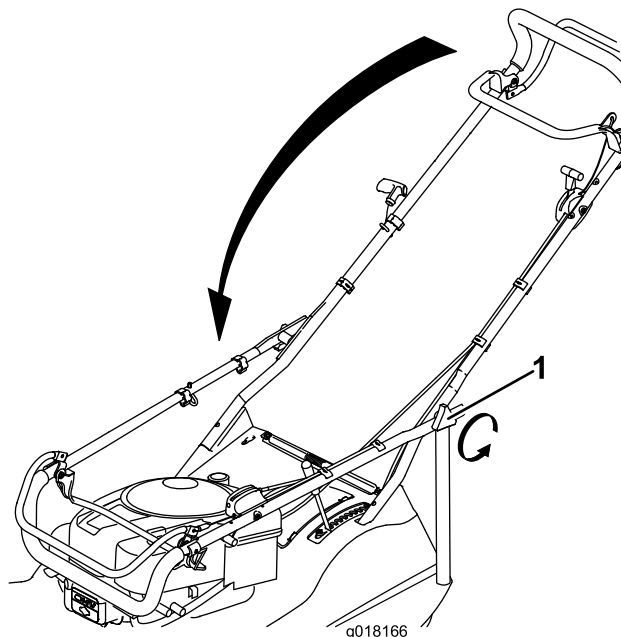

Figure 29
2. Rotate the handle forward (Figure 29).